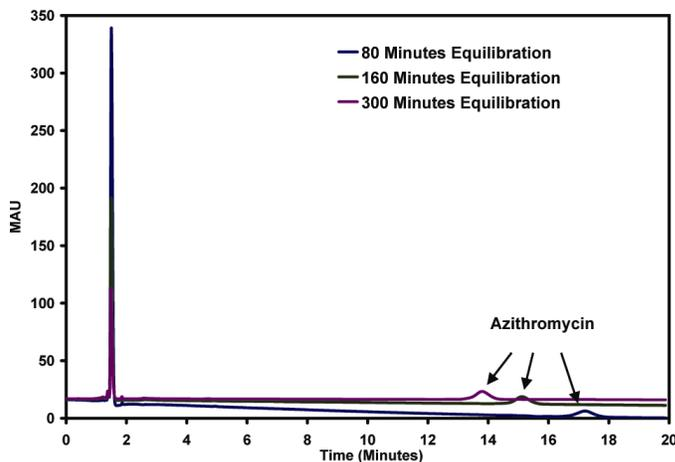

Figure 3: Affect of column exposure to USP mobile phase (equilibration) on the retention time of azithromycin.
5. Injection before complete equilibration: The column takes approximately 4-5 hours at 1 ml/min to fully equilibrate in the mobile phase buffer. Equilibration was defined as the stabilized retention time of azithromycin (see Figure 3). As this equilibration time is often equal to or less than the equilibration time of the electrochemical detector, it does not usually pose a significant issue.